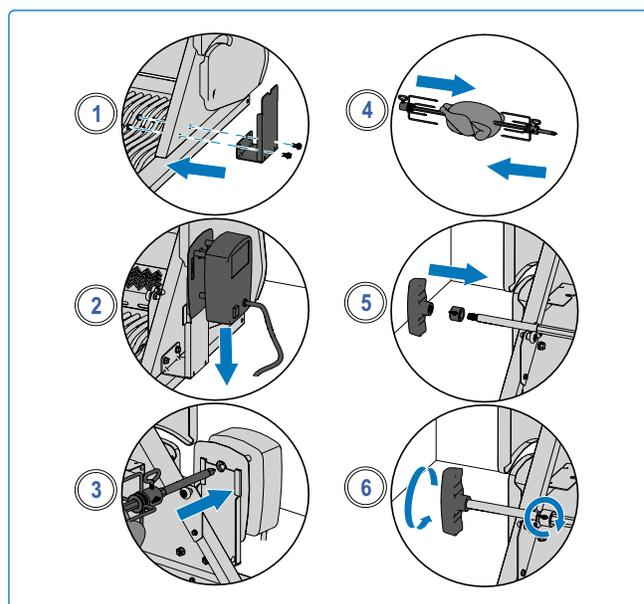

Fig. 17
5. Slide second rotisserie fork onto spit rod and push into chicken until all 3 chickens are squeezed together tightly. Tighten (**Fig 17**).